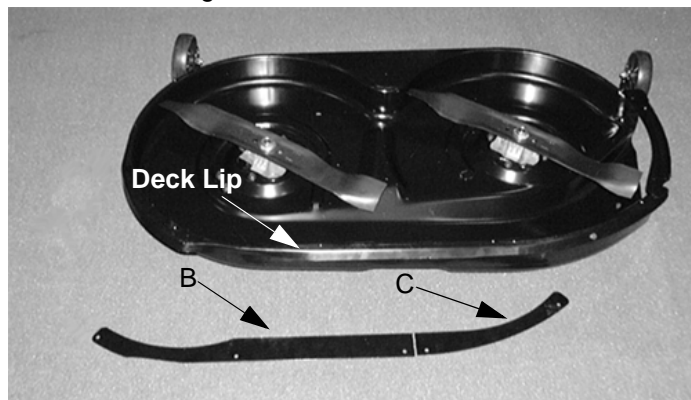

Figure 1
5. Clean any debris from the Deck Lip. See Figure 1.
6. Lay out the skirt sections in front of the deck. See Figure 1.
7. The holes in the skirt sections should be away from the deck. See Figure 1.
8. Place each skirt section on the Deck Lip (Figure 1). They should be oriented the same way as when they were on the floor. See Figure 2.
11. Position each skirt section so that the holes in it are located on the flat surface of the Deck Lip (Figure 1), not on the curved surfaces. Be sure the ends of the sections stay butted against each other and the Foot Guard Plate. See Figure 2.
12. Once the skirt sections are positioned properly, clamp them in place against the Deck Lip (Figure 1). Use a hammer and a center punch to mark the location of each of the five holes in the skirt sections on the deck lip.
14. Reposition the skirt sections on the Deck Lip (Figure 1). Use a 3/8 inch socket to thread each screw (A) through a hole in a skirt section and into the matching hole drilled in the deck lip. Keep each self-tapping screw straight while putting downward pressure on it and tightening with the socket to allow the screw to cut threads. Start all of the screws (A) first, then tighten them securely. See Figure 3.